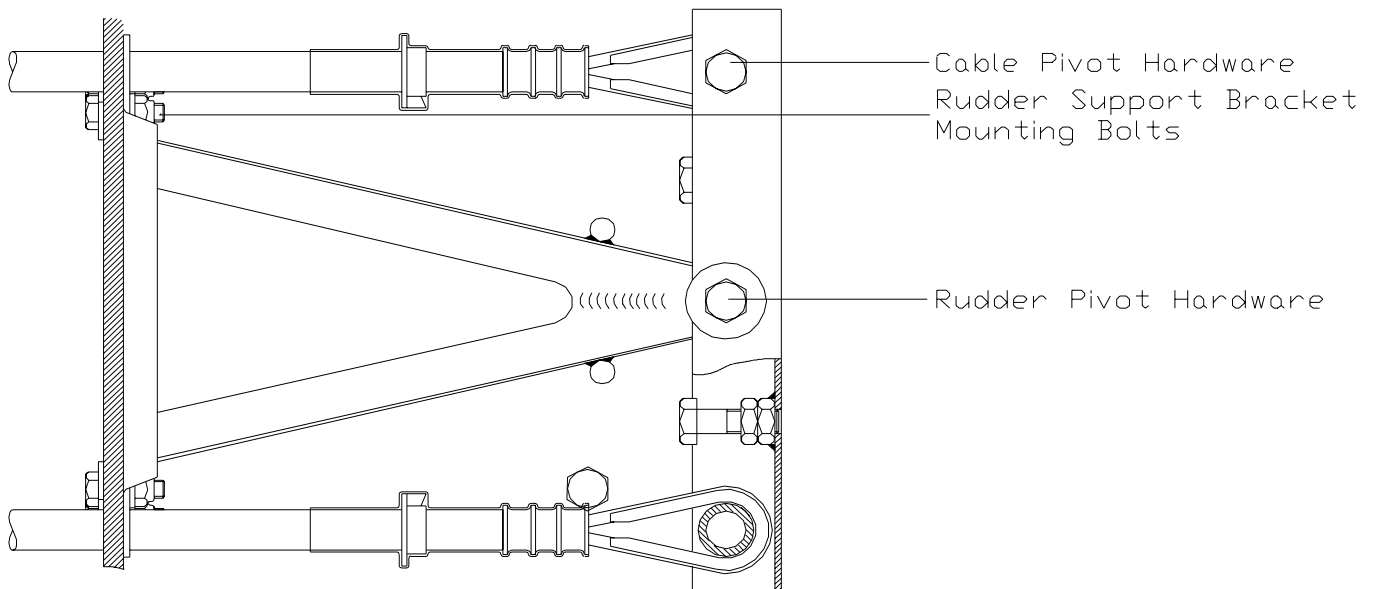

Figure 2
- 10.2.1** Remove the cable pivot hardware (see figure 2) from the lower rudder mounting plate. Discard the MS21044N4 nuts.
- 10.2.2** Remove the rudder pivot hardware (see figure 2) from the lower rudder mounting plate. Discard the MS21044N4 nut.